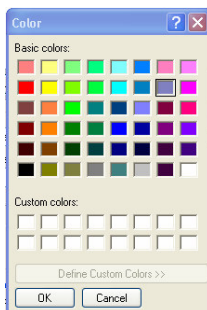

Figure 38: Select Button Color
5. Set the Button Color (see Figure 38).